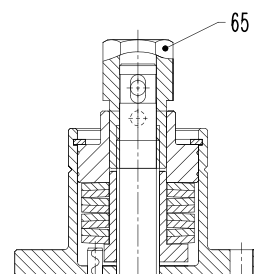

Figure 7-8
8. Turn by hand the hexagon head (65) clockwise to its mechanical stop; see «Figure 7-8».